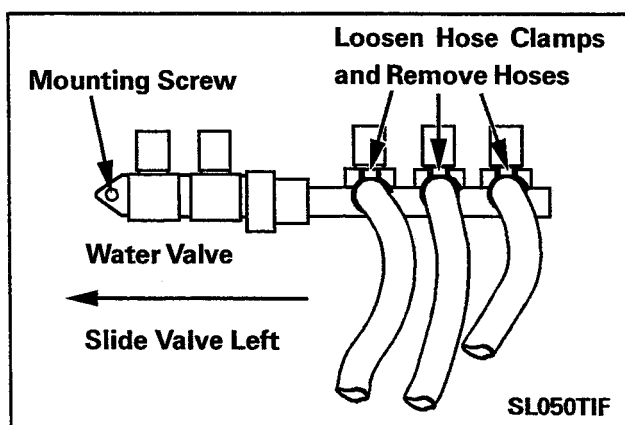

Figure 2-31
7. Locate and loosen the valve mounting screw by turning the screw at least three full turns. **Note: The mounting screw serves as a locating pin to hold the valve in position on the mounting bracket. By partially removing the screw, the water valve can now be slid to the left and removed from the bracket (Figure 2-31).**